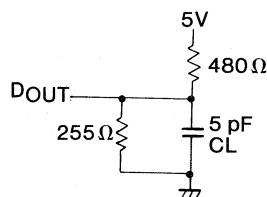

Figure 2 Output Load
2. T_{CX} and T_{OTD} are measured ± 200 mV from steady state voltage with specified loading in Figure 2.
5. T_{OTW} and T_{OW} are measured ± 200 mV from steady state voltage with specified loading in Figure 2.